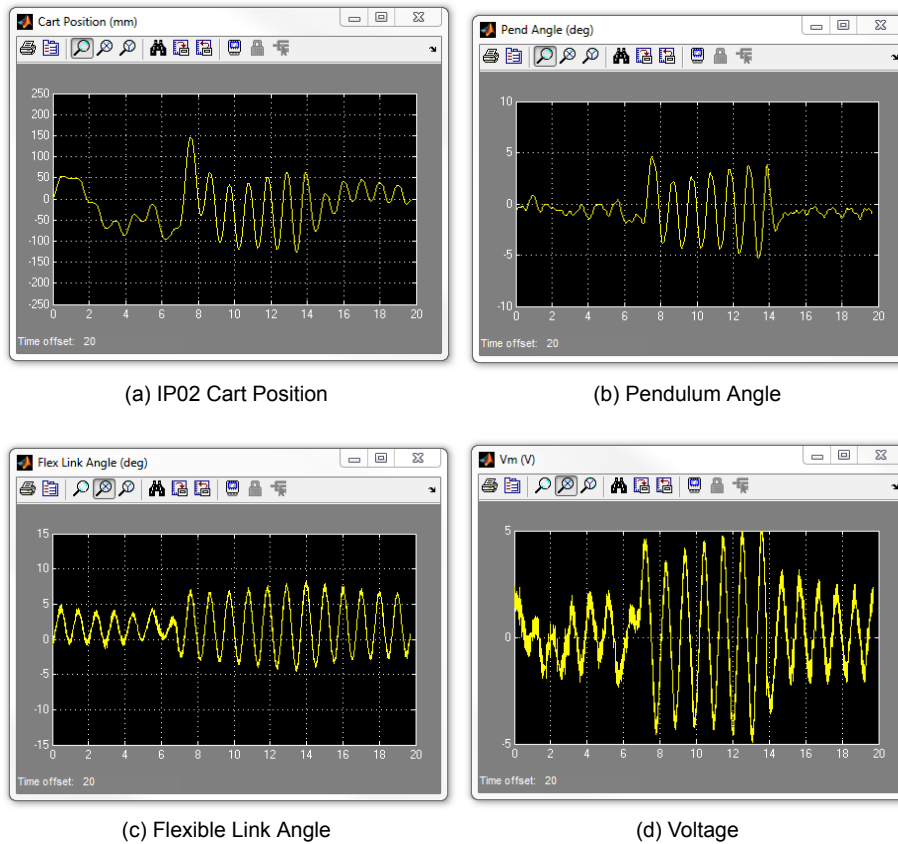

Figure 3.7: Typical partial-state feedback response when balancing the FLEXPEN system
6. Introduce a slight disturbance into the pendulums and observe the response of the system. The system should begin to oscillate with an increasing amplitude as shown in Figure 3.7.